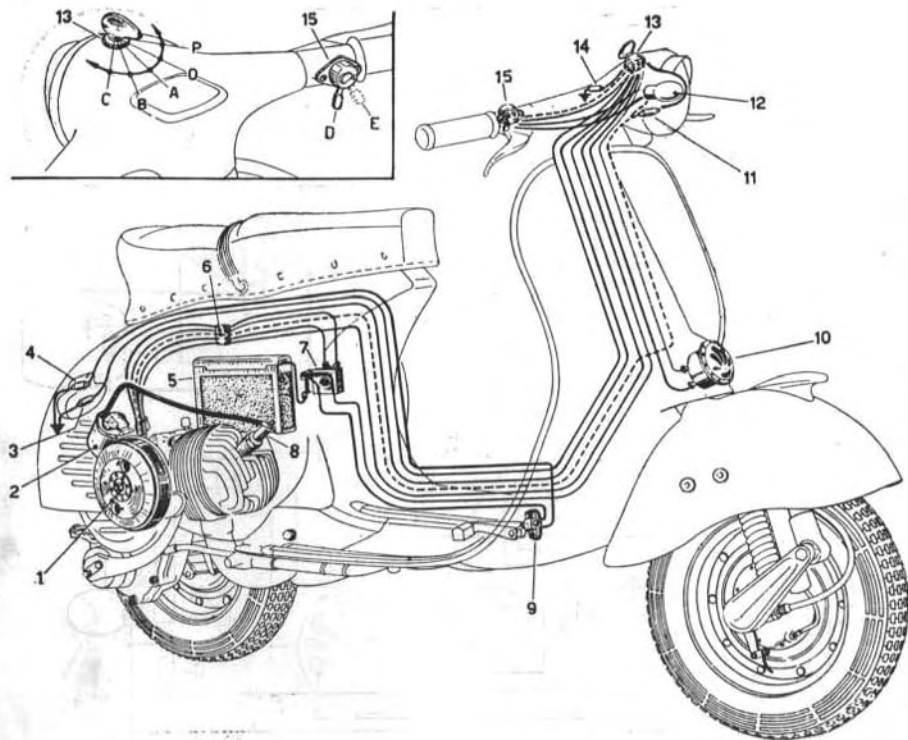

Fig. 3 • Cable harness
Either alternating or direct current for both horn and lighting system is supplied as follows (see Figs. 3 and 4):
The **main switch**, in which a key must be completely inserted (position 0), is placed on top of the lamp (see No. 13, Fig. 3).
The key can be turned into the following positions (see Fig. 3):
The dimmer switch (country beam and traffic beam; see Fig. 3, positions « D » and « E ») with horn button is installed on the right hand side of the handlebars.
N.B. - The clamps in the main switch (No. 13, Fig. 3 and 4) are connected to one another as follows: